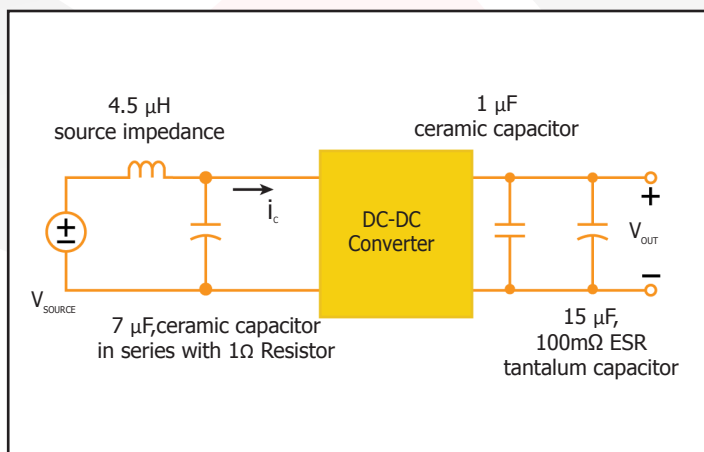

Figure 17: Test set-up diagram showing measurement points for Input Terminal Ripple Current (Figure 9) and Output Voltage Ripple (Figure 10).
**Figure 9:** Input terminal current ripple,  $i_c$ , at full rated output current and nominal input voltage with SynQor MCOTS filter module (200 mA/div). Bandwidth: 20MHz. See Figure 17.
**Figure 10:** Output voltage ripple,  $V_{out}$ , at nominal input voltage and rated load current (50 mV/div). Load capacitance: 1  $\mu$ F ceramic capacitor and 10  $\mu$ F tantalum capacitor. Bandwidth: 10 MHz. See Figure 17.